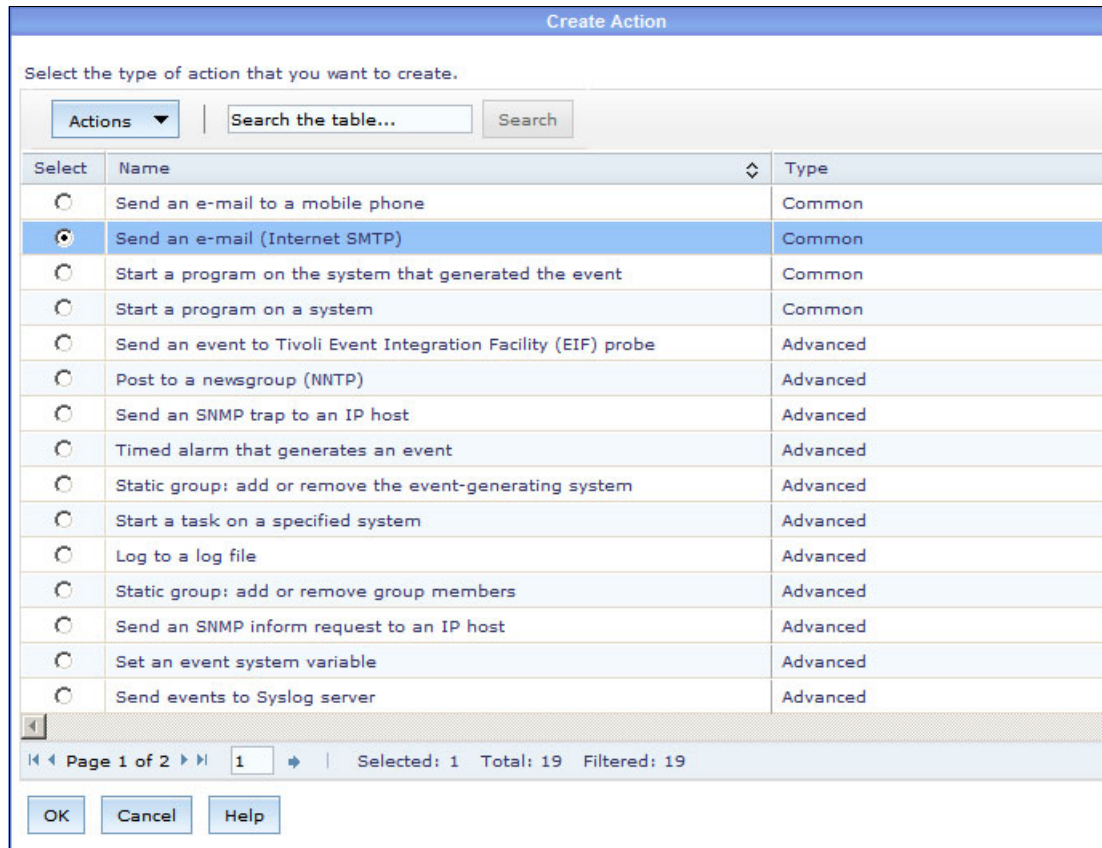

Figure 7-22 Create Action window: Choose an action
8. Select the required action as shown in Figure 7-22 and click **OK**. In our example, we selected **Send an e-mail (Internet SMTP)**.